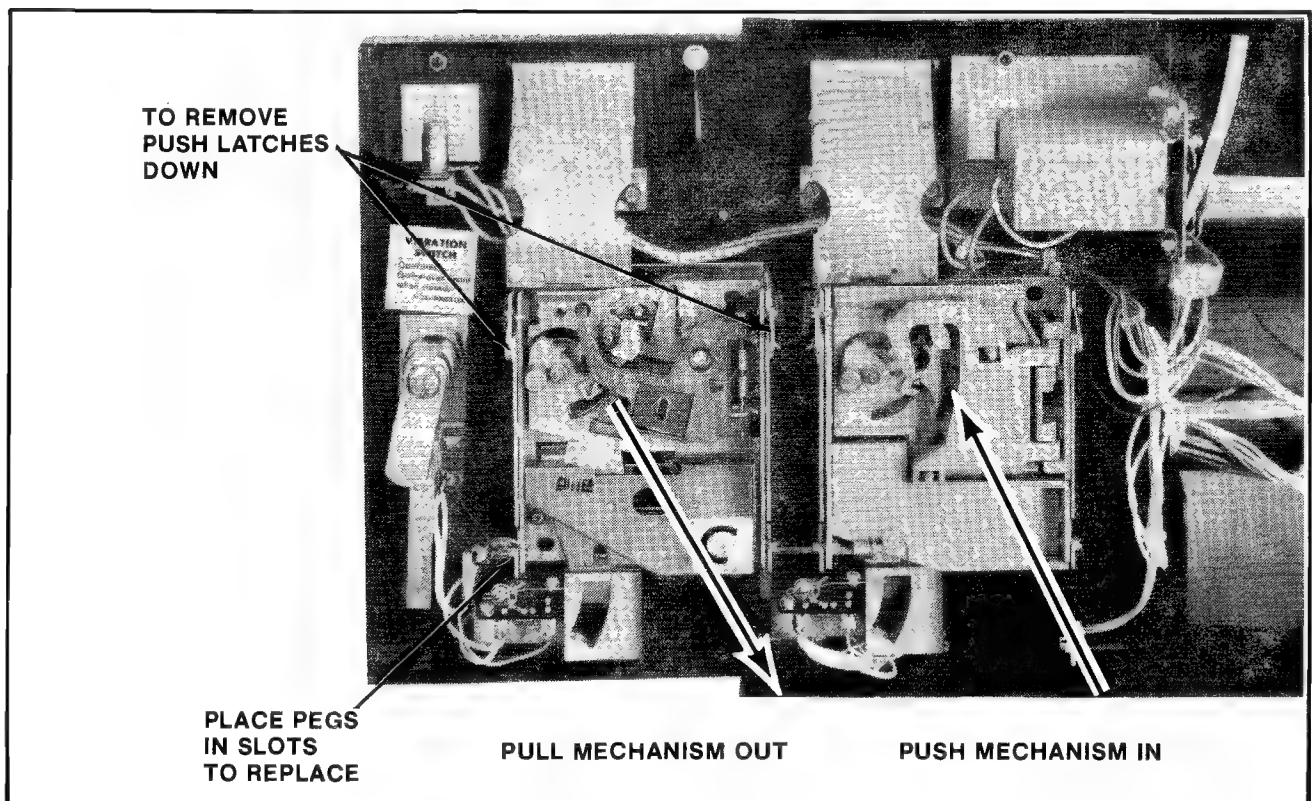

Figure 7-1 Removing and replacing coin acceptor
3. Remove the coin acceptor mechanism as shown in Figure 7-1.
9. Reinstall the coin acceptor to the coin door. See Figure 7-1.
3. Remove the coin acceptor mechanism(s) as shown in Figure 7-1.